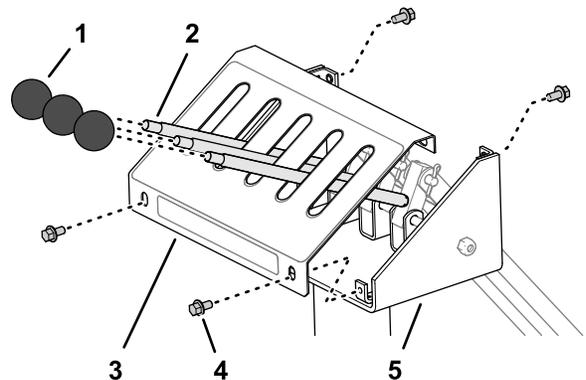

Figure 23
1. Remove the 3 knobs from the levers of the control console (Figure 23).
2. Remove the 4 flange-head screws that secure the cover to the control console, and remove the cover (Figure 23).